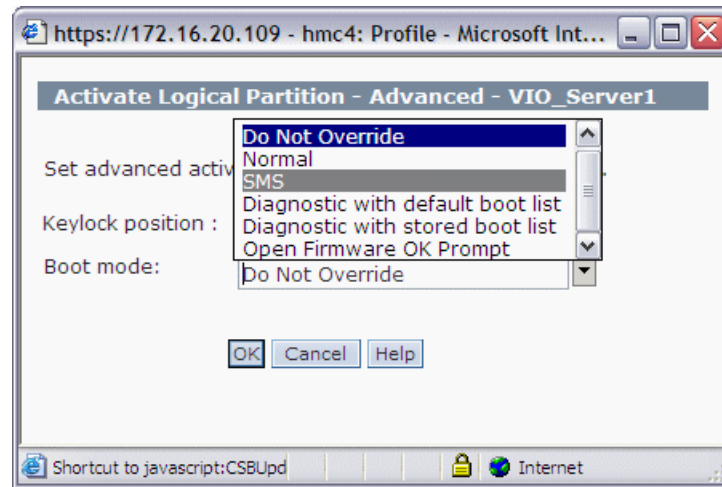

Figure 12-22 HMC Selecting the SMS menu for startup
4. Under the Boot Mode drop-down list, choose **SMS**, as shown in Figure 12-22, and then click **OK**, then back in the Activate Logical partition window, click **OK** as well.